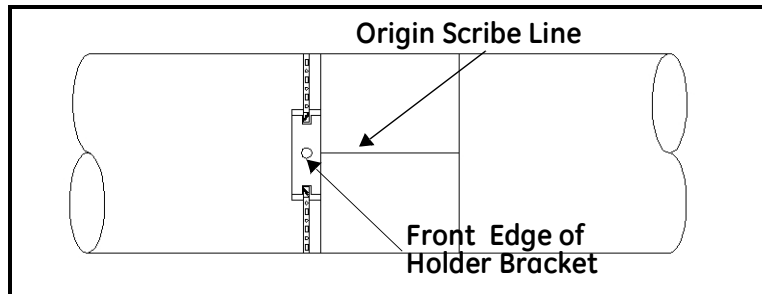
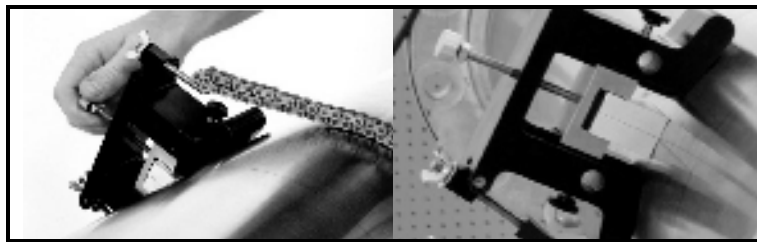

Figure 26: Lining up the First Bracket
Figure 27: Positioning the CFG-PI Holder Bracket
3. Line up one edge of the CFG-PI holder bracket with the origin scribe line and fully tighten the chain or strap (see Figures 26 and Figure 27 below).
4. Install the transducer dummy block to verify the circumferential and axial location. Center the indicator line on the block to line up with the scribed mark (see Figure 27 below).